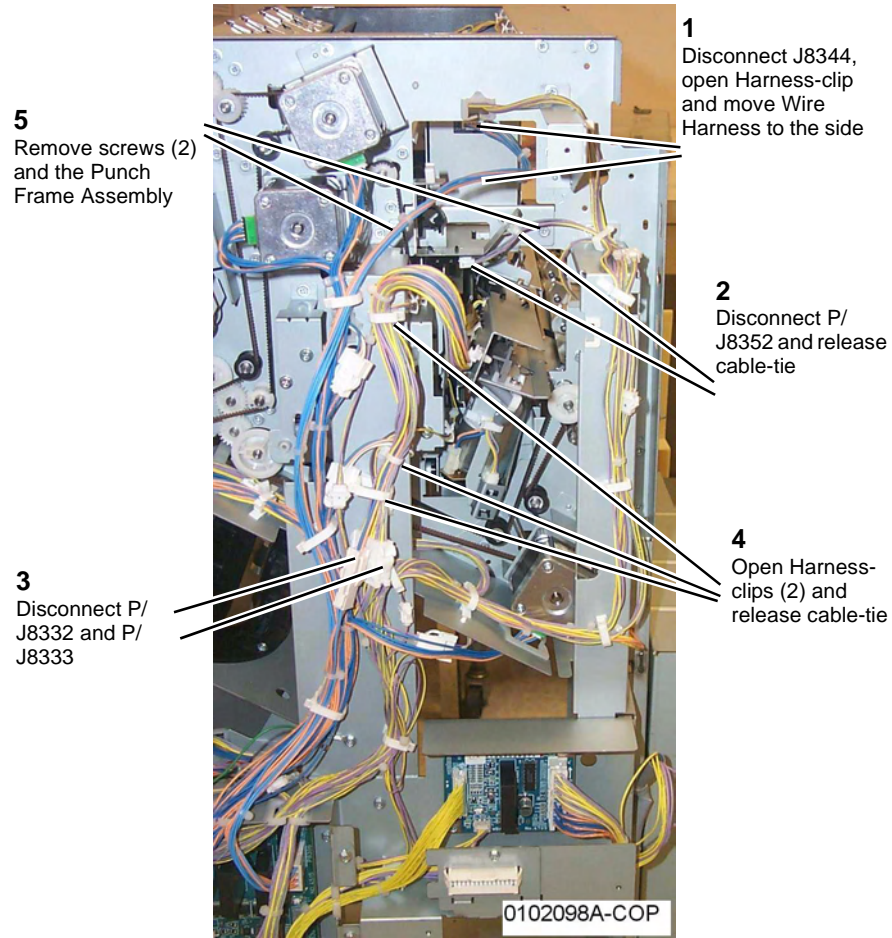

Figure 2 Removing the Punch Frame Assembly
4. Remove the Punch Frame Assembly (Figure 2).